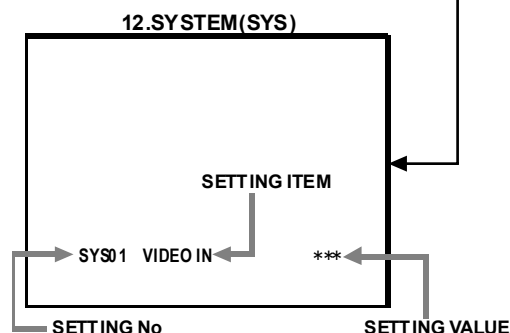

Fig.2
- 4) While the SERVICE MENU is displayed, select the **12.SYSTEM(SYS)** item with FUNCTION (▼/▲) keys, and the FUNCTION (◀/▶) keys is pressed, the screen will be displayed as shown in Fig.2.